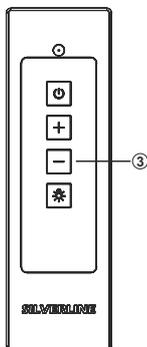

Fig. 24
2. ➔ Press the (-) button on the remote controller to decrease \downarrow the revolution of the device (Fig. 24).